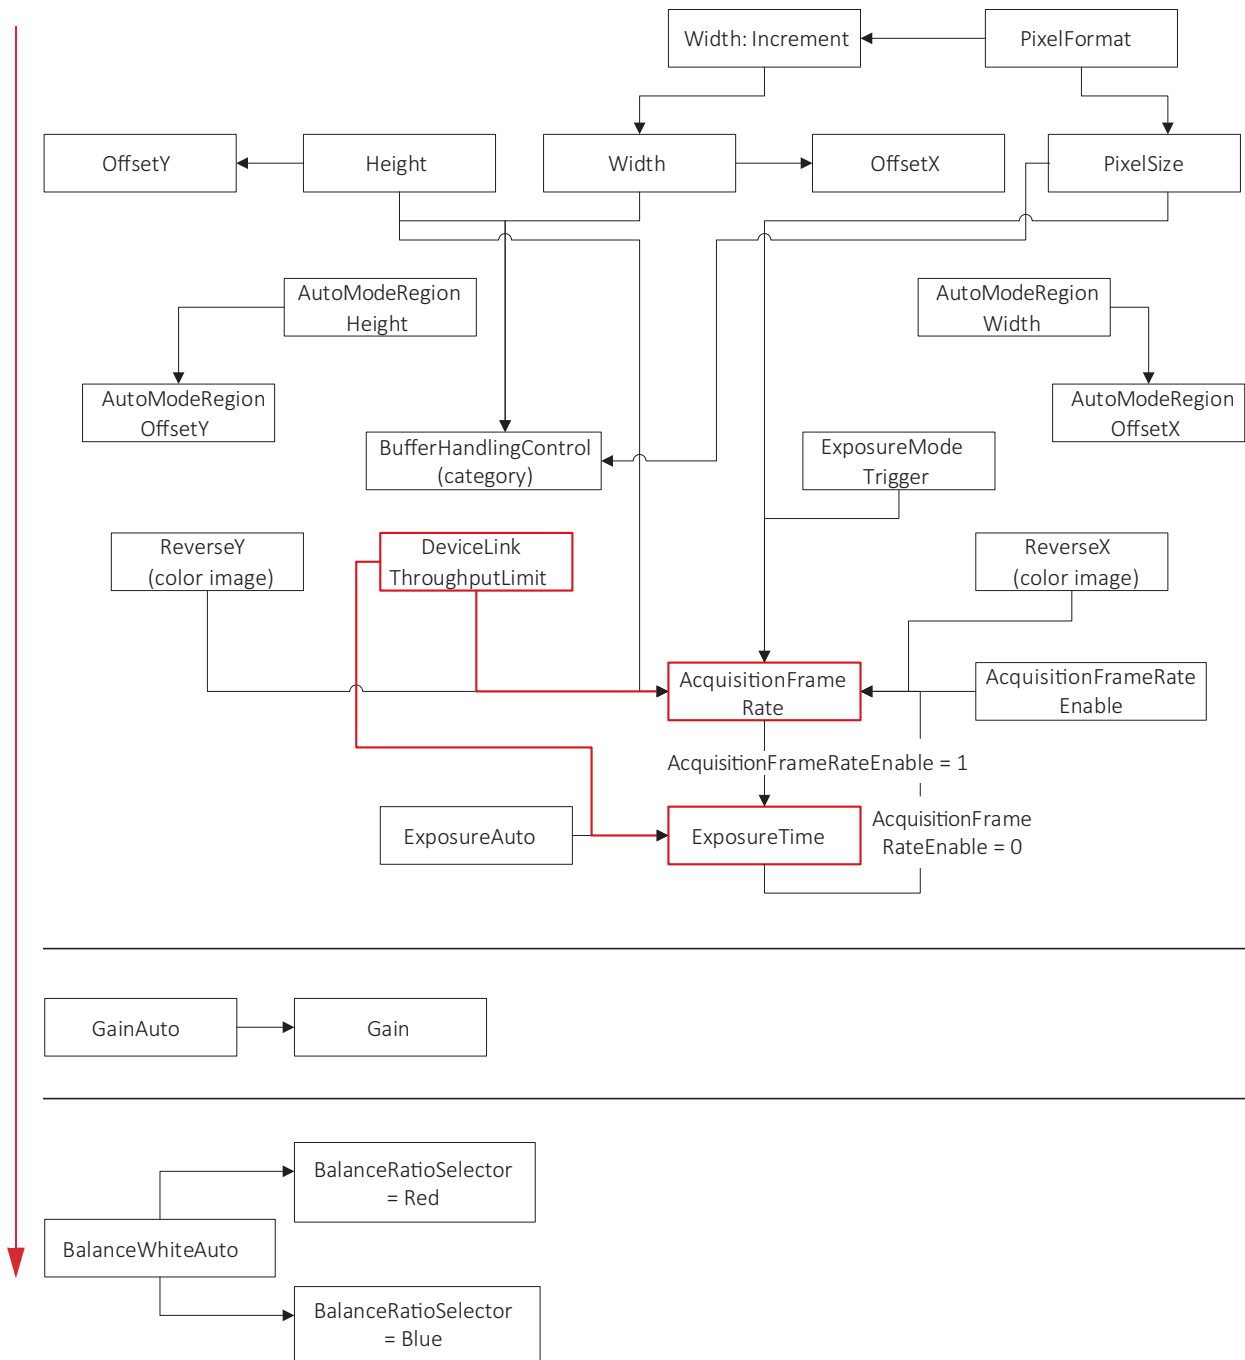

Figure 81: Interdependencies between features
The conversion between time and clock cycles affects control values. Features for pixel format, bandwidth, ROI, exposure time, and triggering are related to each other. Changing values for one feature can change values for another feature. For example, frame rates can be reduced when **PixelFormat** is changed subsequently. Figure 81 shows the interdependencies.
- To avoid readjustments, apply settings in the order shown in Figure 81.